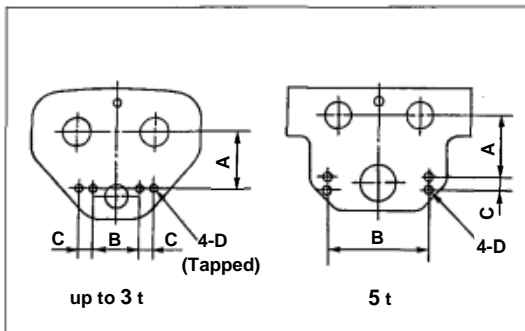

Fig. 20
*When there are no taps or holes for installation of the cable pusher on the side plate, make them; referring to Fig. 20 and Table 7.